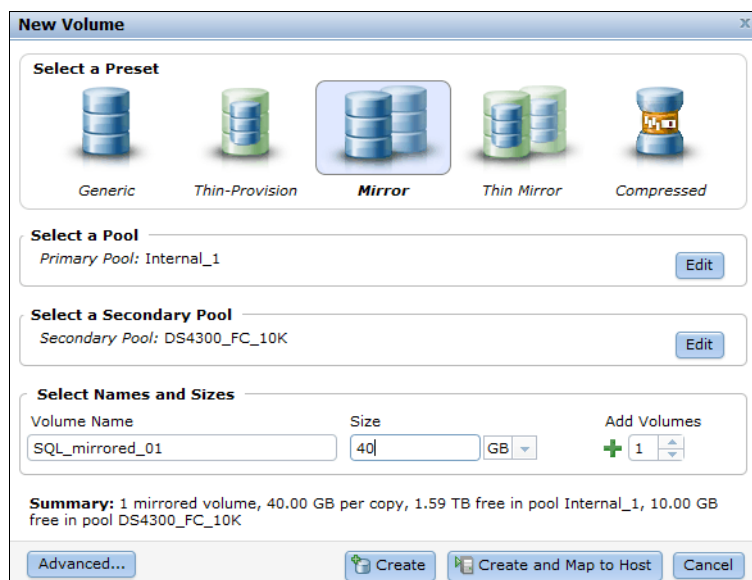

Figure 6-12 Create a mirrored volume - Select pools, name, and size
3. Select the secondary pool by clicking it, and enter a volume name and the required size (Figure 6-12 on page 250).
5. In the advanced mirroring settings, you are able to specify a synchronization rate. Enter a Mirror Sync Rate between 1 - 100%. With this option, you can set the importance of the copy synchronization progress, which enables you to prefer more important volumes for synchronization faster than other mirrored volumes. By default, the rate is set to 50% for all volumes. Click **OK** to return to Figure 6-12.